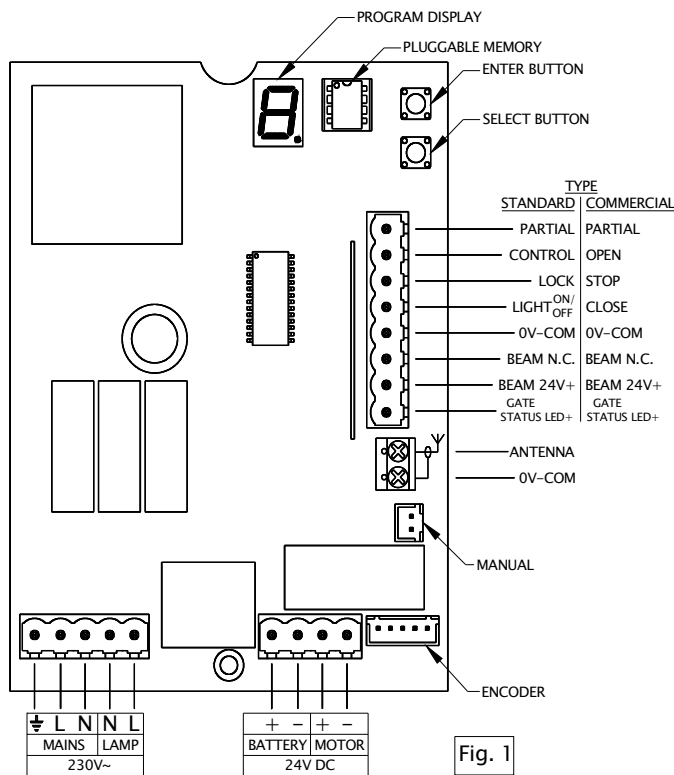

Fig. 1
**Wiring** For all connections refer to Fig. 1.
**Mains.** A suitable cable (armoured 3-core or Surfex) should be used from a 2-amp circuit breaker on the distribution board to the site of the motor, where it is brought up through the opening in the base plate. See page 5 Fig. 4. Connect the earth wire **and** the armour to the spare lug provided on the chassis earthing point. Connect the Line and Neutral wires to the terminals 'L' and 'N' on the controller, shown as '230V MAINS' in Fig. 1.
**Light On/off.** If an optional external lamp or lamps have been connected to 'LAMP, N, L' as in Fig. 1, these may be controlled by a push-button connected to this input. If off, they will be turned on or off if they were on. The combined power of these lamps is restricted to 250W. In Commercial mode this input serves as a 'Close' command.